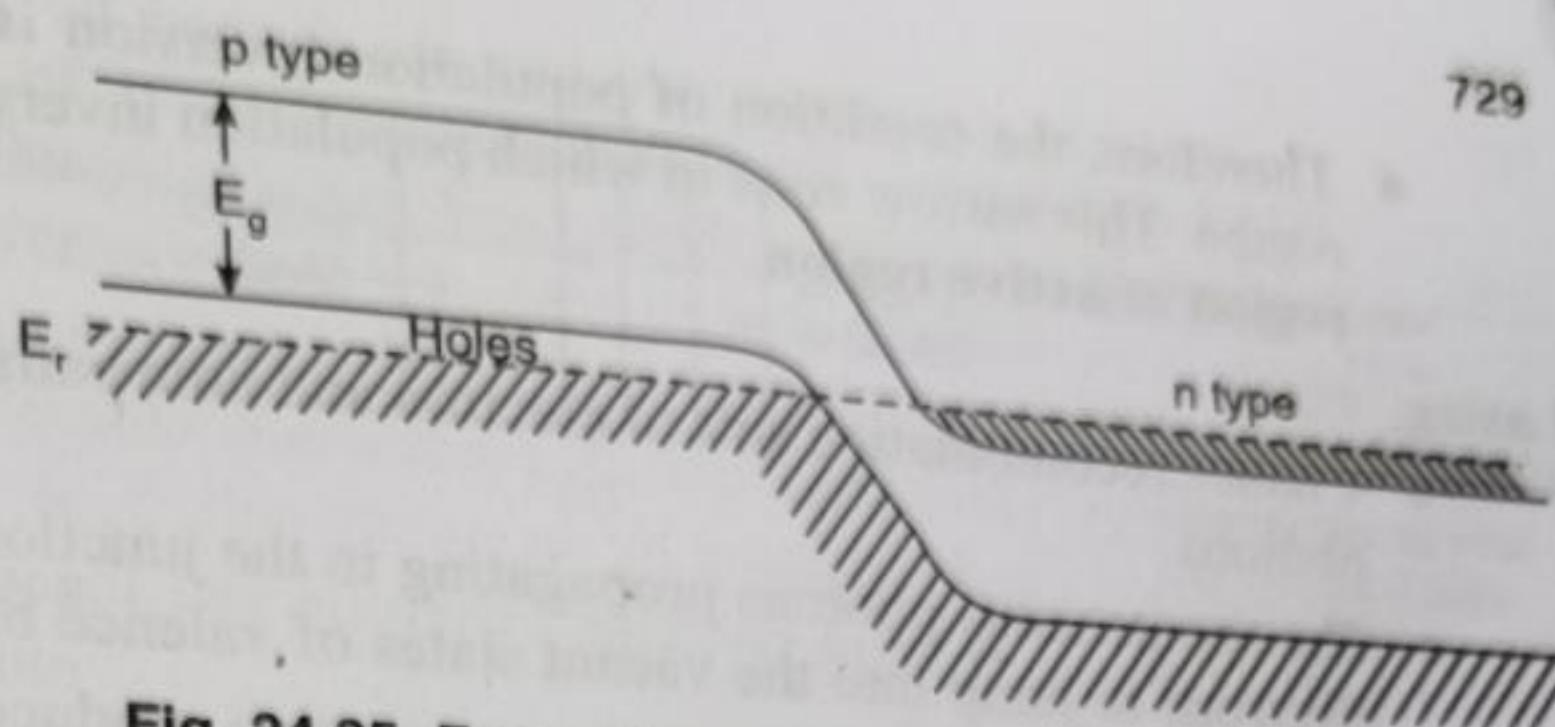

Fig. 24.25. Energy band diagram of a heavily doped p-n junction without bias
**Working:** The energy band diagram of a heavily doped p-n junction is shown in Fig. 24.25.